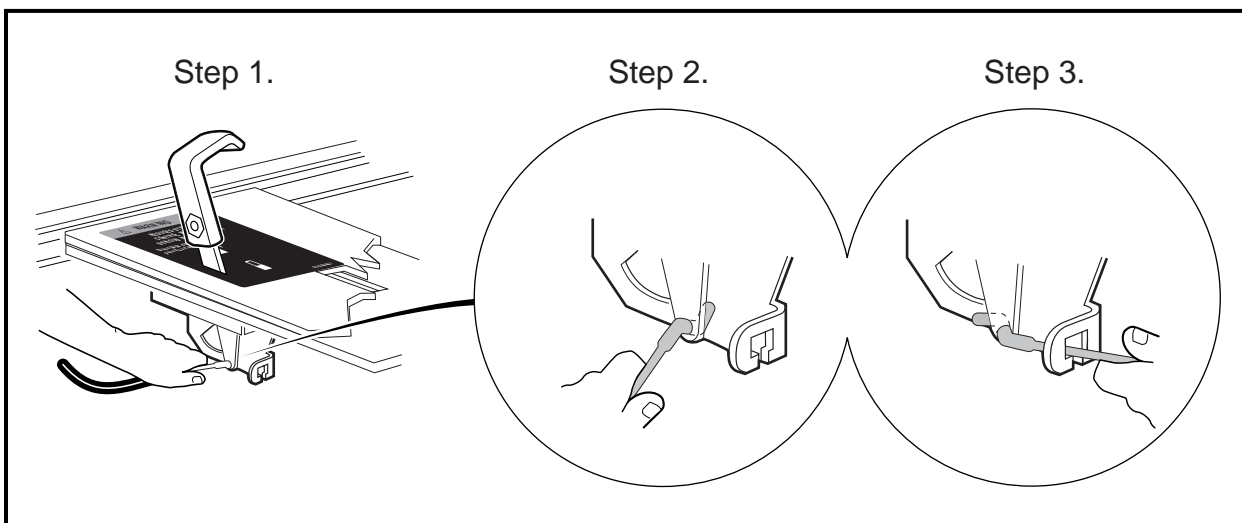

Figure 16-113 Differential Cable End Installation
- 33.1. Connect the end of the differential lock cable to the differential lock handle (step 1) (**Figure 16-113, Page 16-46**).
- 33.2. Push down on the cable to secure the end of the cable to the differential lock handle (step 2) (**Figure 16-113, Page 16-46**).
- 33.3. Rotate the cable counterclockwise to route the cable through the bracket (step 3) (**Figure 16-113, Page 16-46**).
- 5.1. Connect the end of the differential lock cable to the differential lock handle (step 1) (**Figure 16-113, Page 16-46**).
- 5.2. Push down on the cable to secure the end of the cable to the differential lock handle (step 2) (**Figure 16-113, Page 16-46**).
- 5.3. Rotate the cable sheath counterclockwise to route the cable through the bracket (step 3) (**Figure 16-113, Page 16-46**).